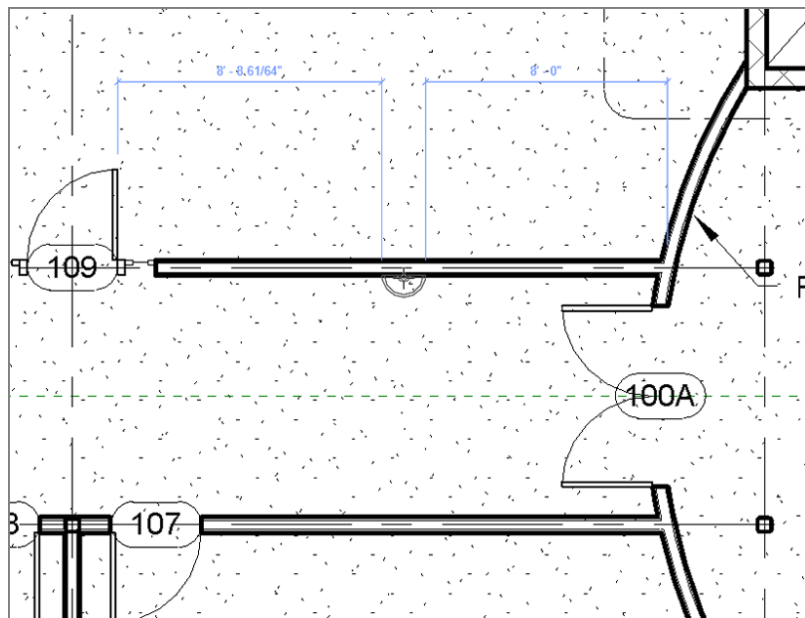

FIGURE 9.46: Adding a sconce
5. Add the sconce to the corridor wall, as shown in Figure 9.46.